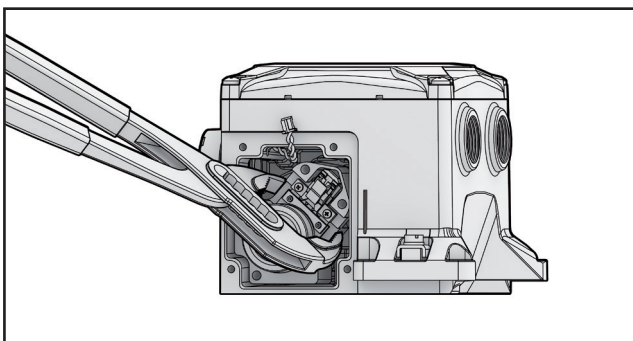

Fig. 81. NDX1510\_ Pulling out prestage with pliers.
- Pull out the prestage carefully. It is recommended to use pliers to grab the grooves on the sides of the prestage. Be careful not to touch the moving parts of the prestage. (Fig. 81)